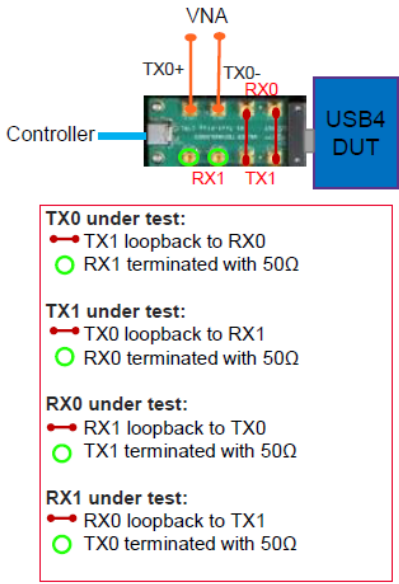

Figure 123 SMP test fixture - Tx/Rx lane switching
- 8 In case of SMP test fixture, Tx/Rx lane under test can be switched as shown in Figure 123.